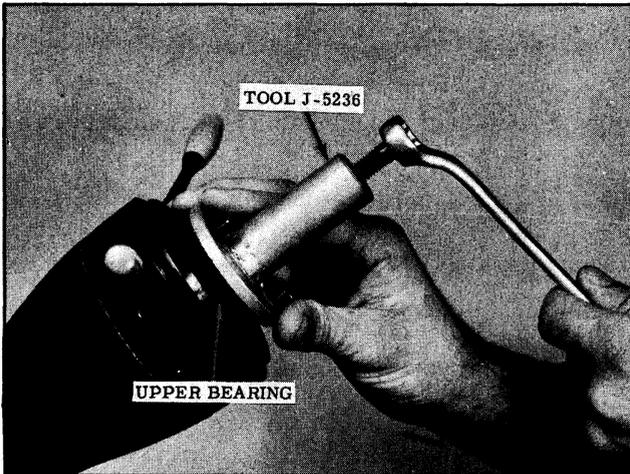

Fig. 5-89 Upper Bearing Removal
4. Using Tool J-5236, remove upper bearing and horn wire. (See Fig. 5-89)